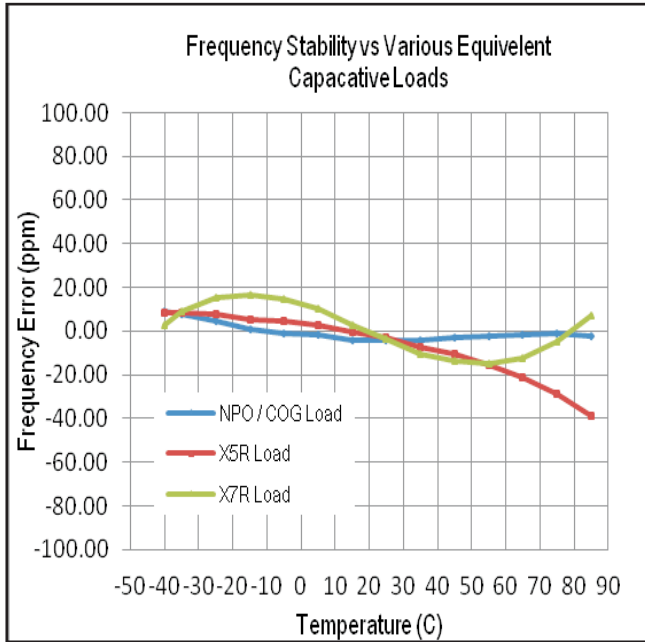

Figure: 13-01
2. Always adhere to stated loading specifications} for OCXO RF output. OCXOs are load sensitive and require an equivalent load capacitor with a flat capacitance vs. temperature curve to achieve stated frequency stability specifications. Consider NPO/COG capacitors when practical for optimal temperature characteristics. See FIGURE 13-01 Frequency Response to various equivalent capacitive loads.